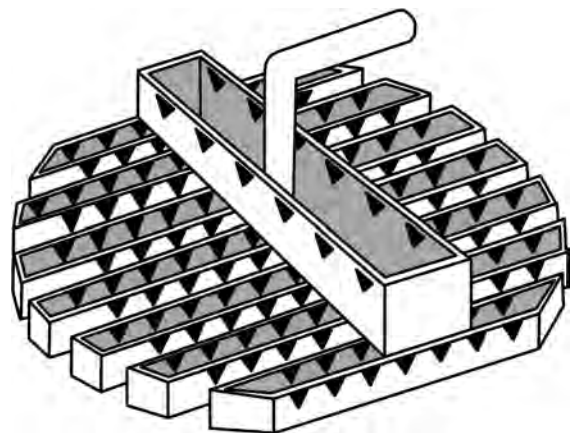

FIGURE 16.26 Trough and weir type distributor. (Courtesy: Kotech-Glitsch LP.)
- Trough and weir type (Figure 16.26).